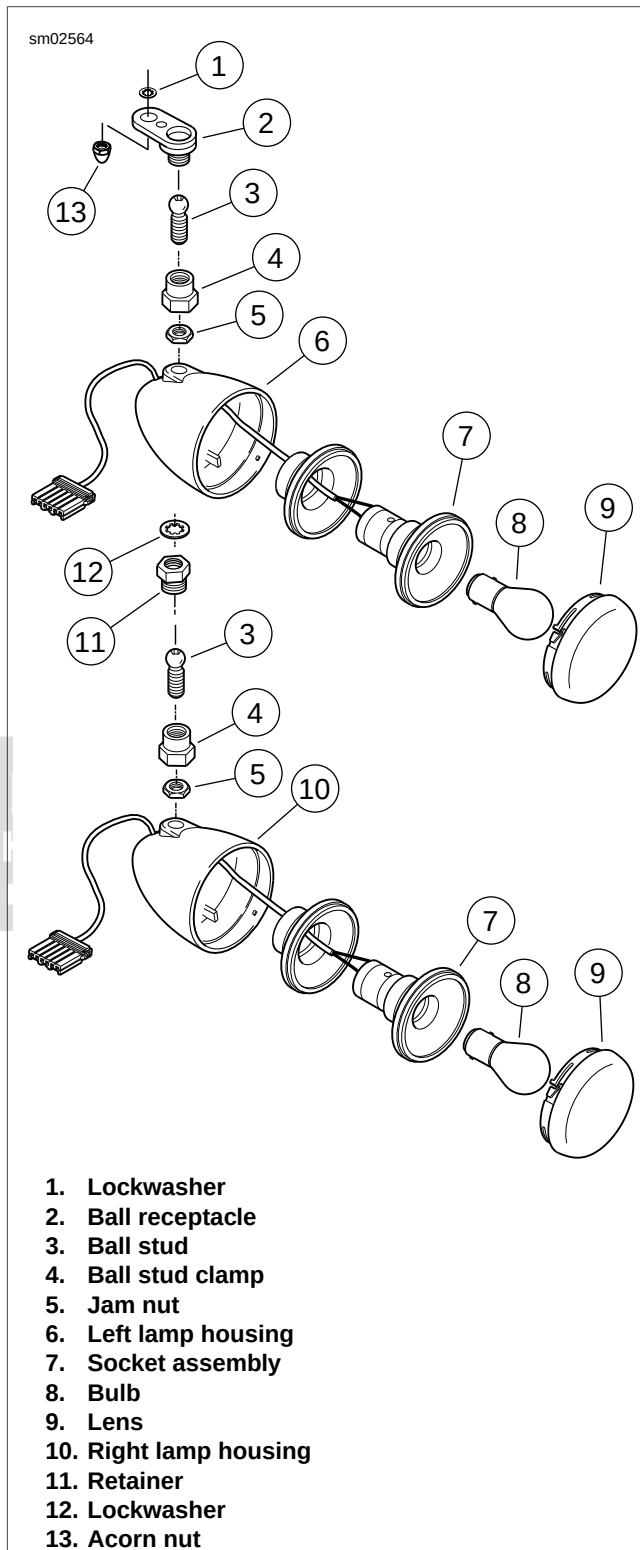

Figure 7-32. Front Turn Signals
6. See Figure 7-32. Remove lamp housing:
- a. For left side housing, loosen ball stud clamp (4) until turn signal assembly is free from ball receptacle (2). Loosen jam nut (5) and remove ball stud (3) and ball stud clamp from lamp housing.
- b. For right side housing, loosen ball stud clamp (4) until turn signal assembly is free from retainer (11). Loosen jam nut (5) and remove ball stud (3) and ball stud clamp from lamp housing.